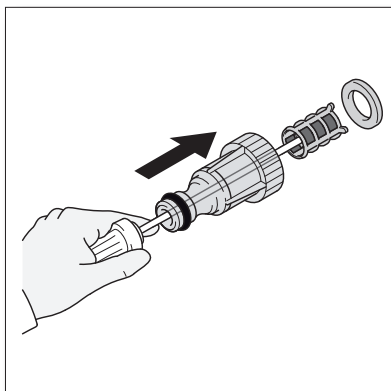

Fig. 20
- The screen inside the clear adapter should be cleaned periodically. Insert a pen or pencil in small hole at the end of the adapter. The screen filter will slide out (**Fig. 20**). Rinse it with clean water, and then place it back in the adapter..